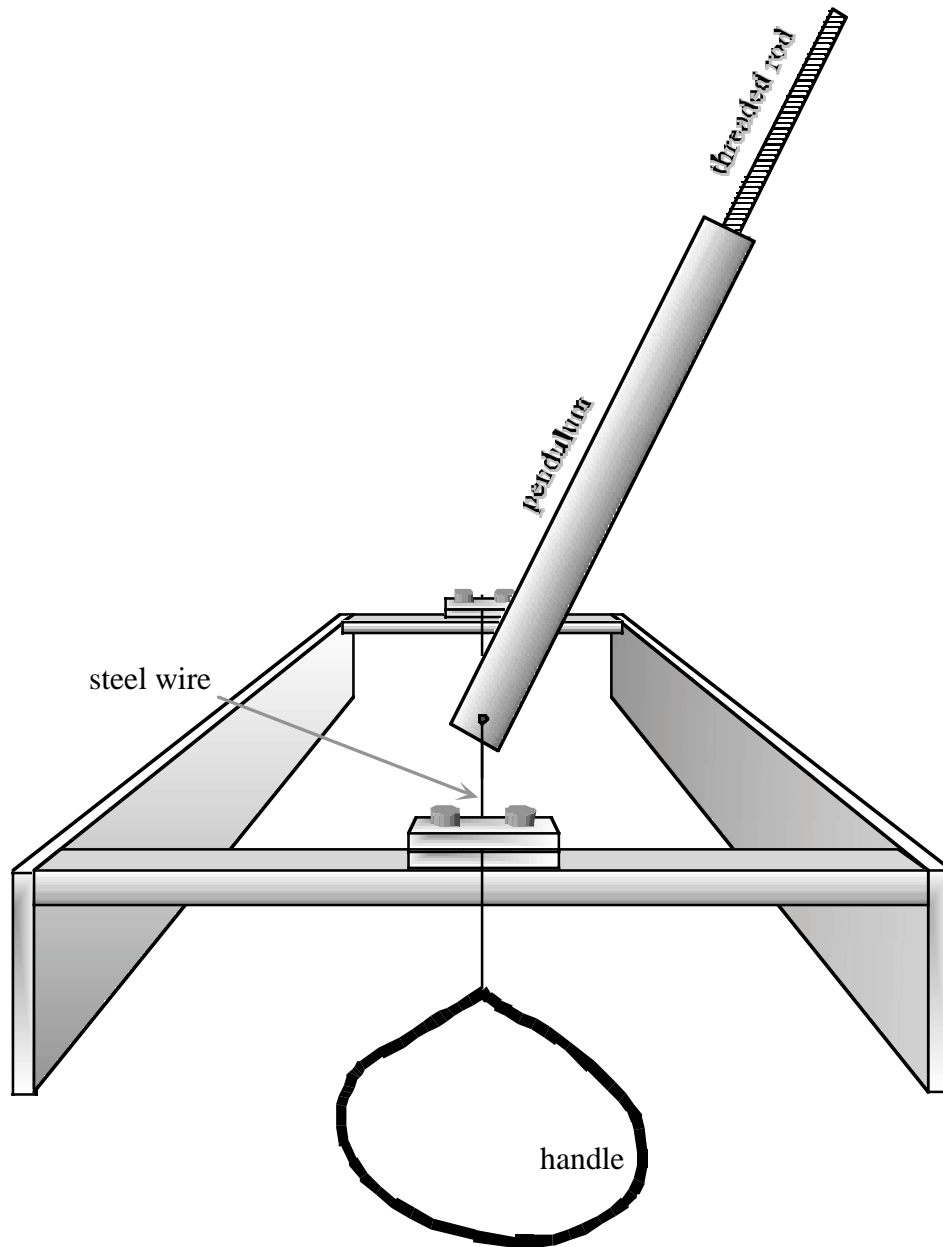

Figure 1: Sketch of the experimental apparatus when its rotation axis is horizontal.
1. A torsion pendulum, consisting of an outer body (not longitudinally uniform) and an inner threaded rod, with a stand as shown in figure 1
The experimental apparatus is shown in figure 1; it is a torsion pendulum that can oscillate either around a horizontal rotation axis or around a vertical rotation axis. The rotation axis is defined by a short steel wire kept in tension. The pendulum has an inner part that is a threaded rod that may be screwed in and out, and can be fixed in place by means of a small hexagonal lock nut. This threaded rod can **not** be extracted from the pendulum body.
- the pendulum position defined by the angle θ of deviation from the direction perpendicular to the plane of the stand frame, which is shown horizontal in figure 1.